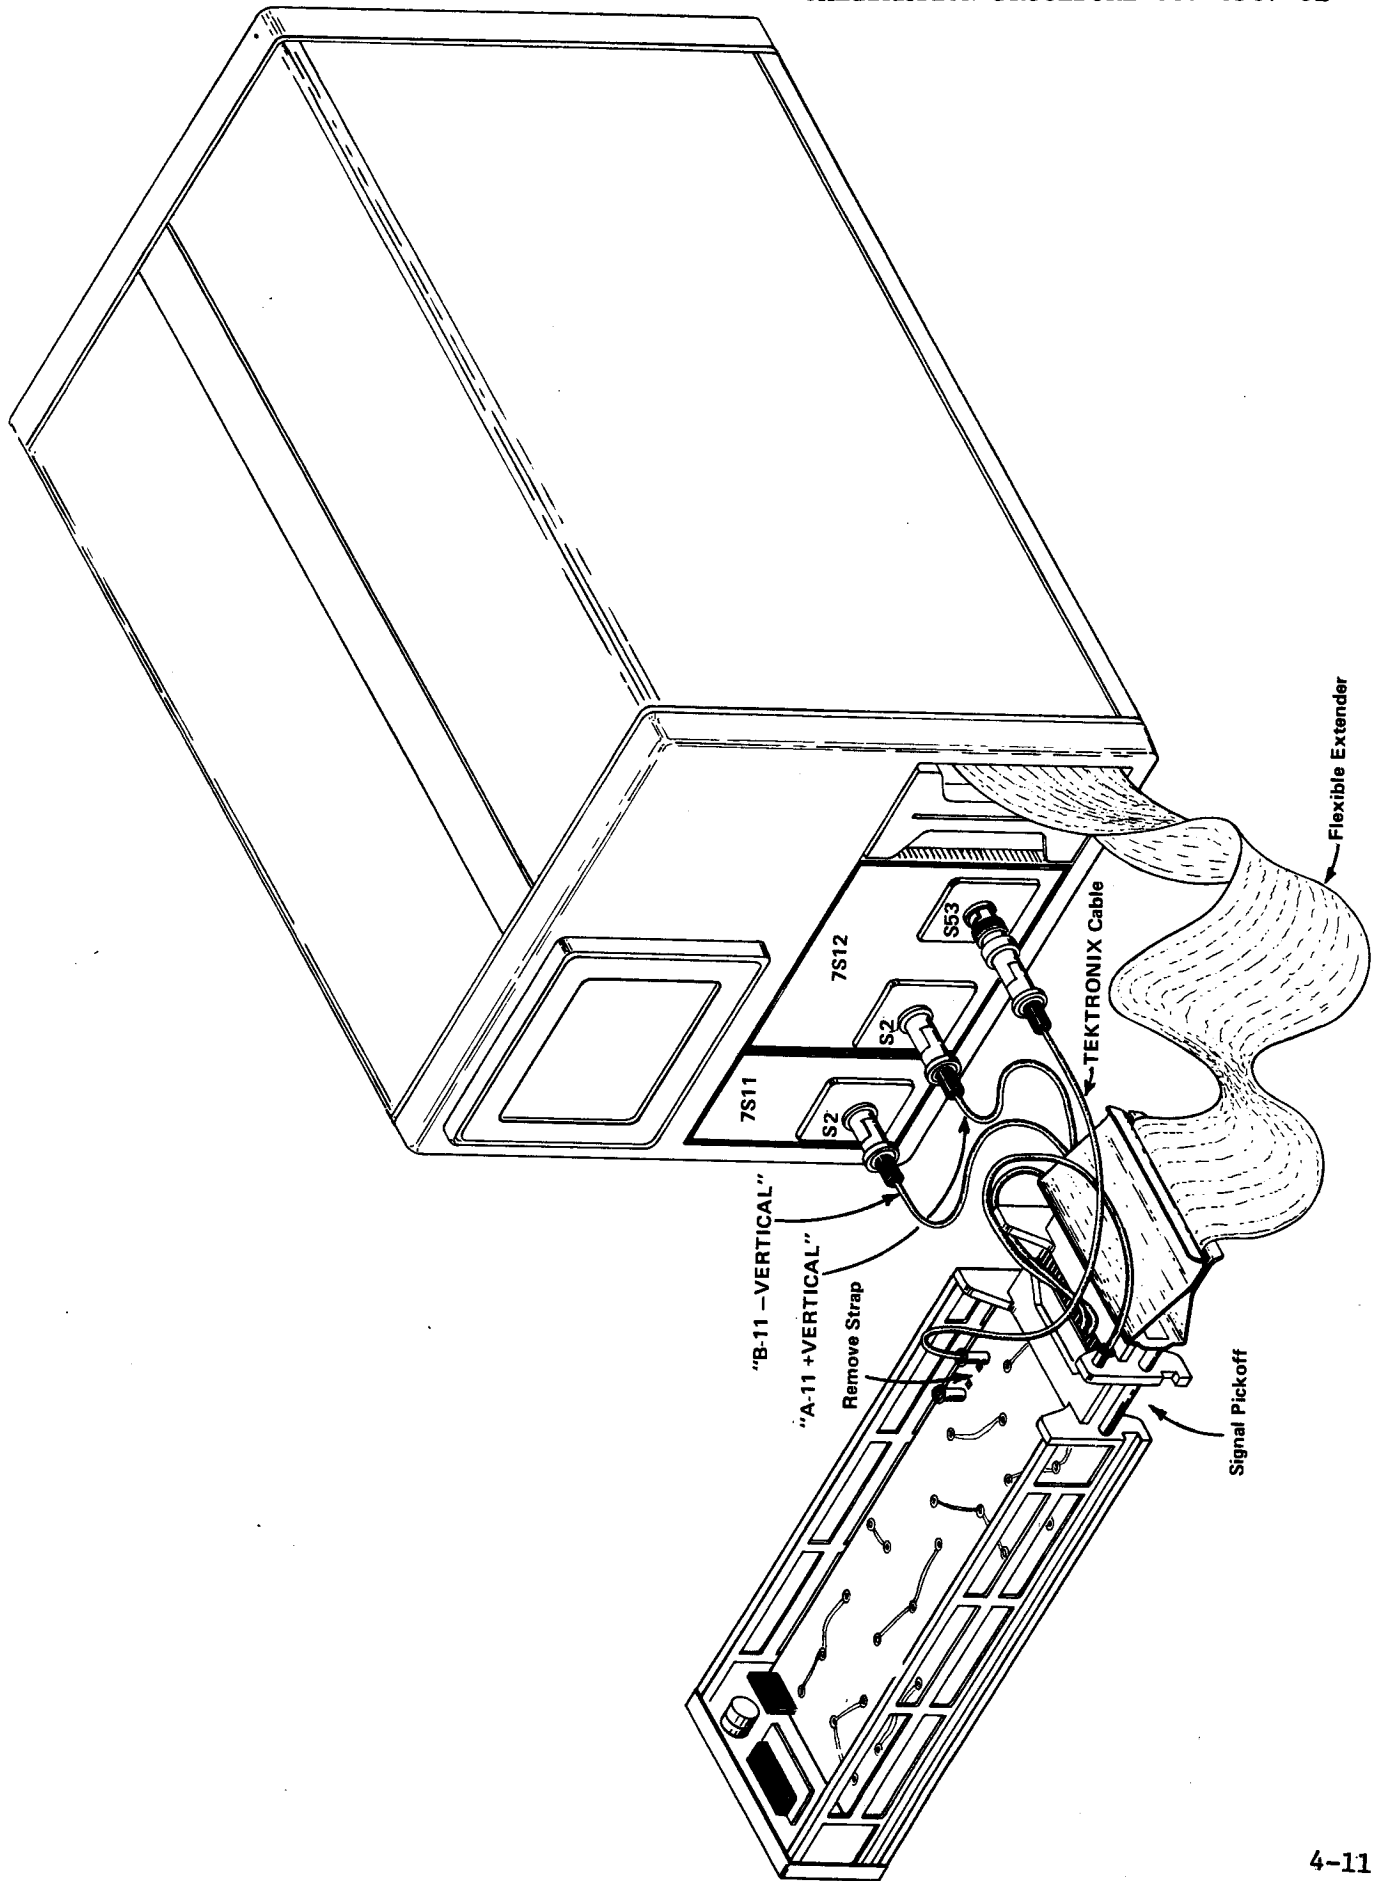

Fig. 3. Preliminary set-up for Sampling
d. Remove the shorting strap located between the two (2) empty connectors on the Signal Standardizer plug-in. See Fig. 3 for exact location. Connect a Tektronix cable between the connector closest to the rear of the plug-in and the S-54 Pulse Generator output using a Tektronix to GR adapter and a GR to BNC adapter. Refer to Fig. 3 for setup.